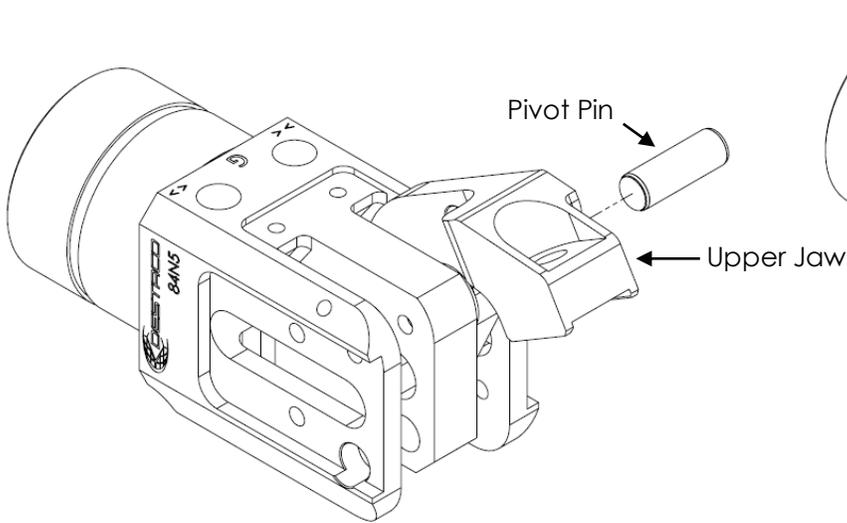

Fig.13
- Insert the jaw between the trident structure of the body and position it such that the jaw pivot pin hole is aligned to the pivot pin hole in the gripper body. Insert the pivot pin so that the jaw pivots freely around it (see Fig.13).